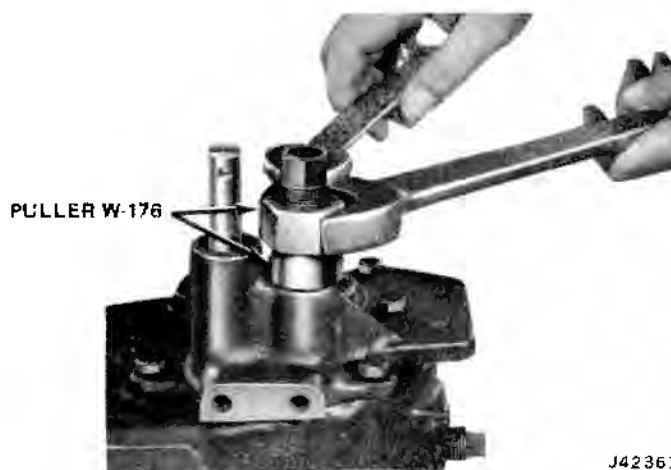

Fig. 8-12 Shift Rail Oil Seal Removal
(1) Remove seals using Puller Tool W-176 (fig. 8-12).